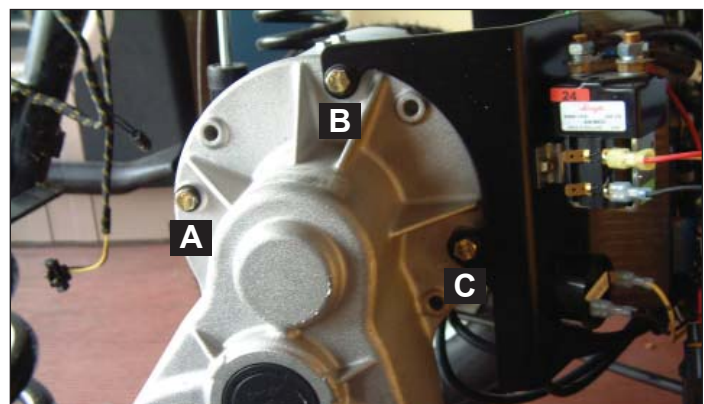

Figure 10-18. Motor Attaching Bolts
2. Rotate motor to align mounting bolt holes to axle/differential housing. Install 3 bolts securing motor to rear axle/differential housing, while carefully supporting motor to prevent it from falling. Loosely tighten screws A and B, then loosely tighten screw C to draw face of motor up to flange on axle evenly (Figure 10-18). Torque screws A and B to 100 in. lbs. (11.3 Nm) Then tighten screw C to 100 in. lbs. (11.3 Nm).